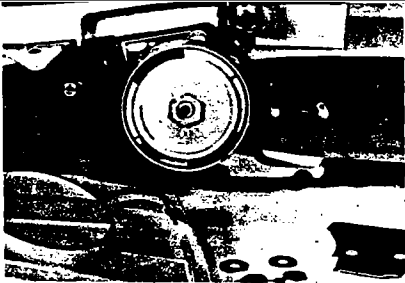

Figure 2
2. Mount the slotted end of the bar over the bar mounting studs and slide bar rearward as far as possible. Figure 2